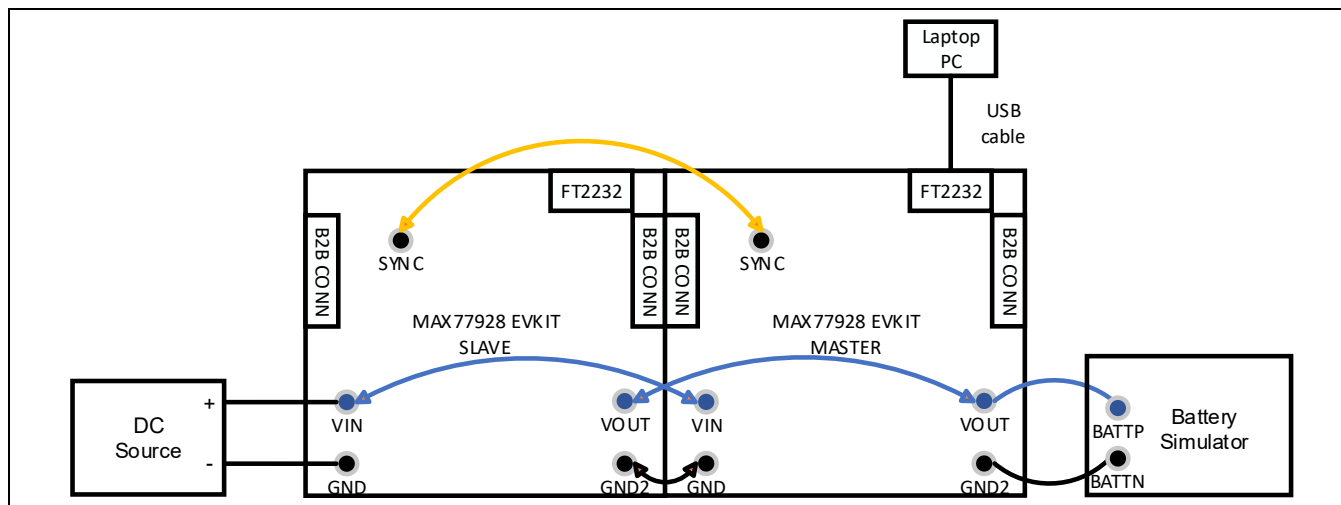

Figure 4. SYNC Operation
17. Connect a MASTER EV kit and a SLAVE EV kit with the B2B connector J4/J5 (Figure 4).
The MAX77928 EV kit supports SYNC operation. The male B2B connector (J4) is compatible with the female B2B connector (J5), so 2 MAX77928 EV kits can be connected to perform the system application test as shown in Figure 4.